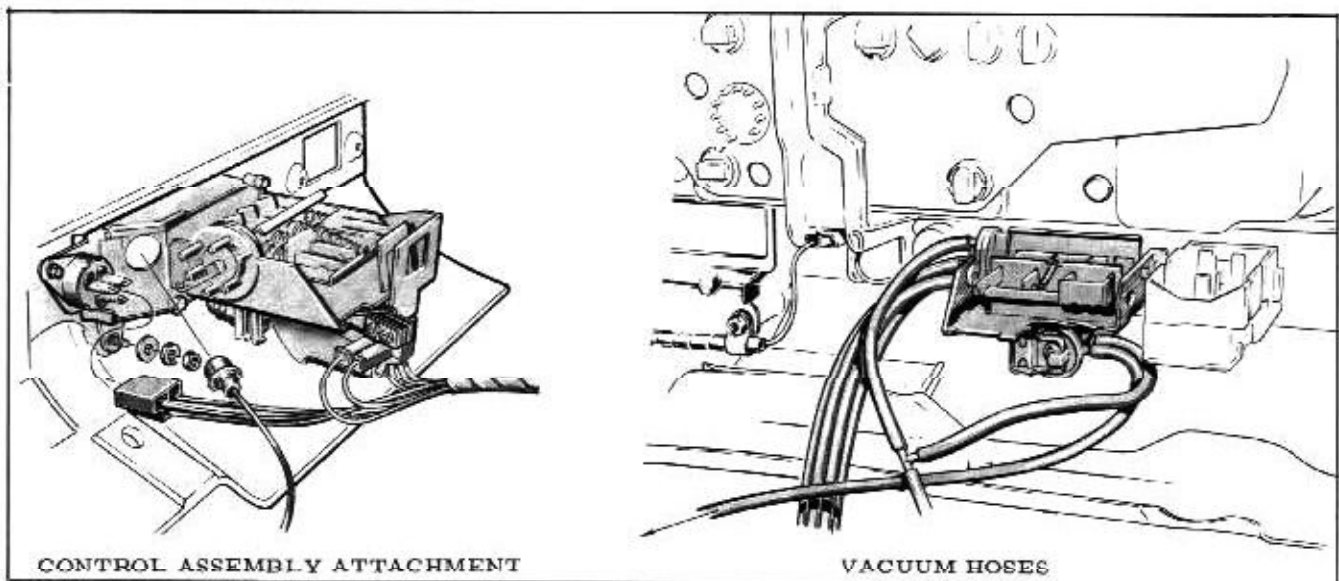

Fig. 14-14 Control Assembly Installation
Removal and Installation (Fig. 14-14)
4. To install, reverse removal procedure. Refer to Fig. 14-14, and Fig. 14-59 for proper installation of hoses.